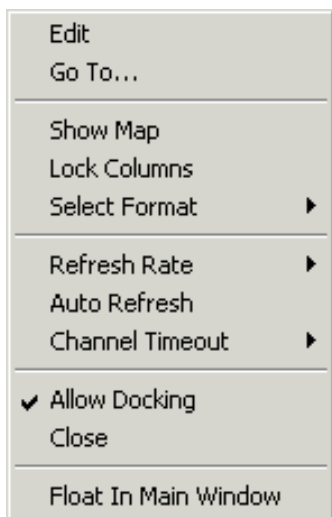

Figure 3-19. BTC Memory Window Right-Click Menu
2. Right-click in the **BTC Memory** window to display a menu of features, shown in Figure 3-19.
Double-clicking on a channel displays the corresponding memory in the **BTC Memory** window. When **Show Map** is disabled, you can choose a channel from a drop-down list selected from the **BTC Memory** window right-click menu (Figure 3-19).